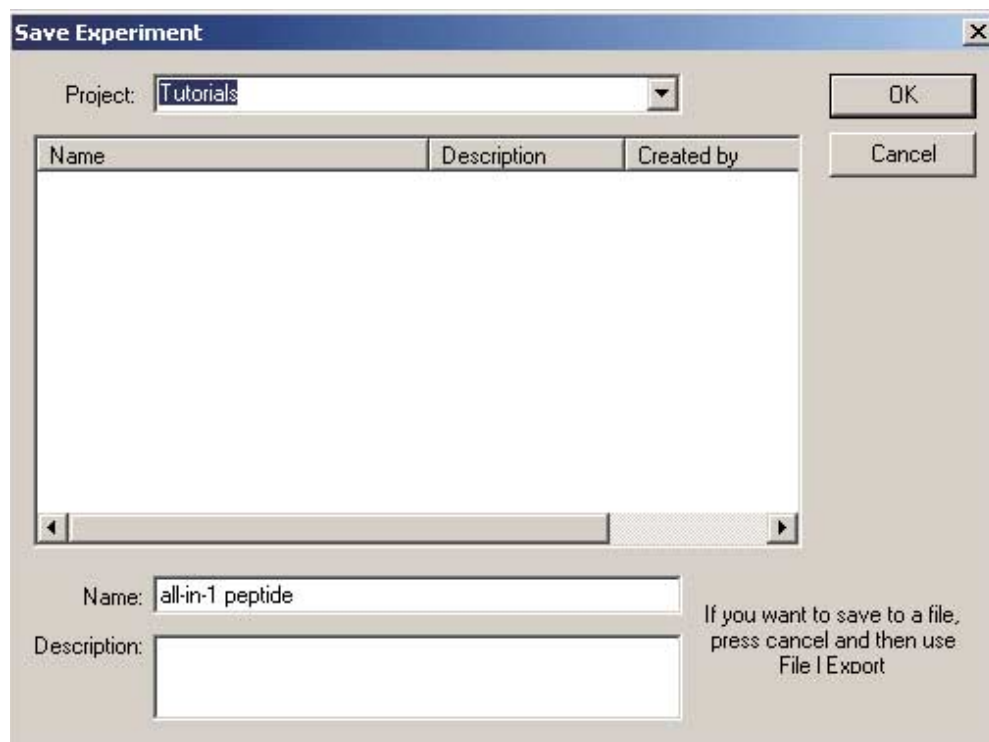

Figure 3-9: Saving the *all-in-1-peptide* experiment in the *Tutorials* project.
11. Choose **Save** from the **File** menu. The **Save Experiment** dialog will open. Make sure **Tutorials** is selected in the **Project** drop-down box, then click **OK** to save **all-in-1 peptide.xpt** to the database in the **Tutorials** project (Figure 3-9).